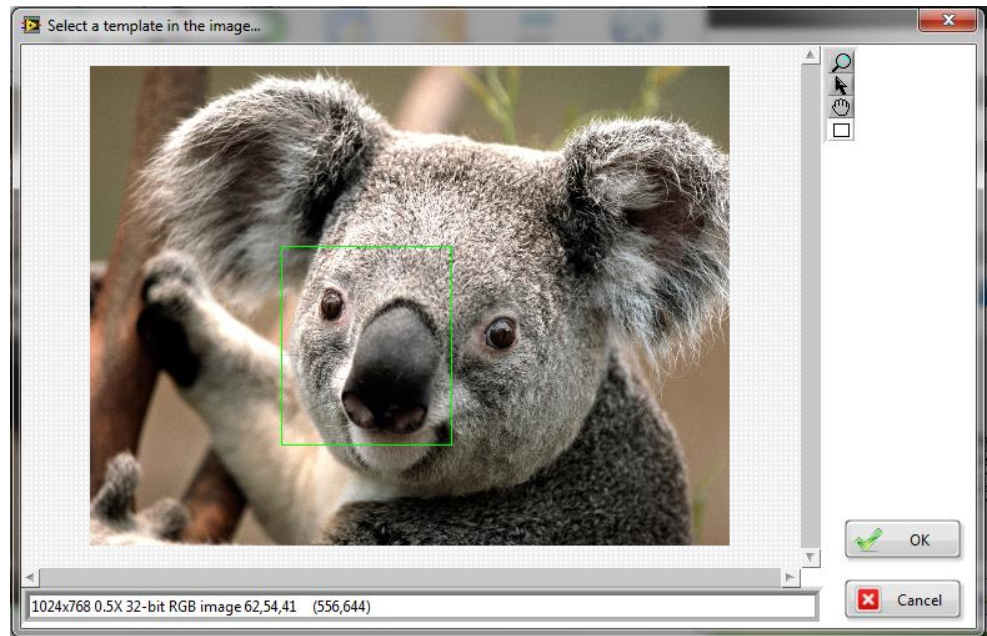

Figure 50. Draw a template region on the image.
5. Draw a template region on the image [Figure 50] and click OK to save the template.